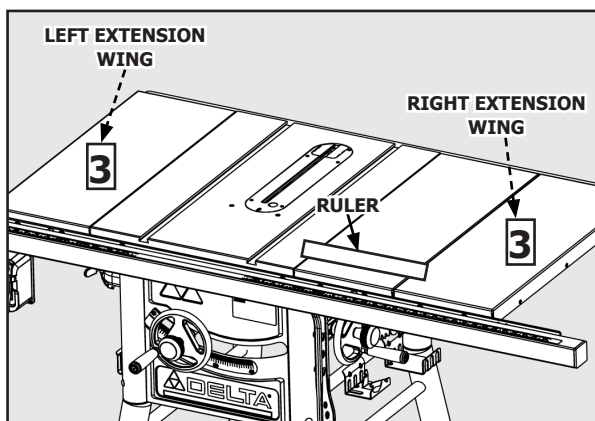
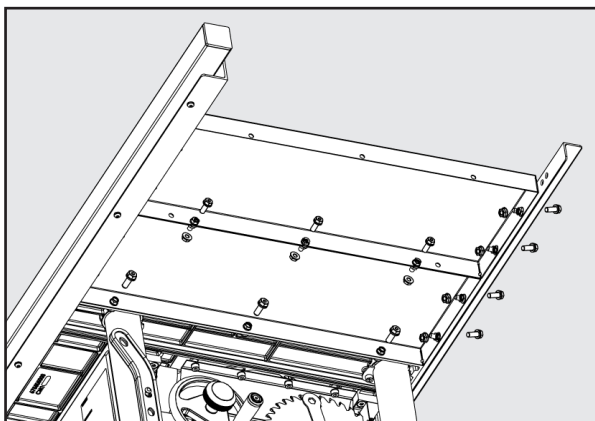
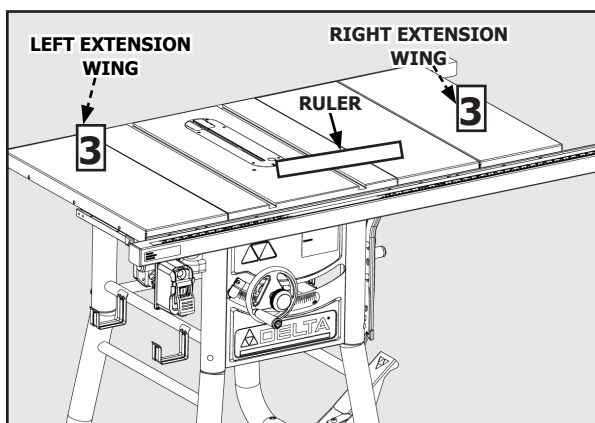

FIGURE 7
FIGURE 8
FIGURE 9
4. Turn the two wings, fastened together, over and fasten them to right side of the saw table using three (5/16-18 x 7/8") hex head screws with spring washers. See Figure 8.
**NOTE:** Use a ruler to make sure the top edges of the wings are flush with the top of the tabletop. See Figure 7.
1. Lay the wood table (A) upside down on floor or bench.
2. Position legs (B) in corner as shown in Figure 7. The vertical wall of the angle plate on the leg should be against the end wood wall (C) of the table.
3. Carefully drill through the holes in the vertical angle plate holes and through the wood rail of the table with a 1/4" drill. Insert the 10-32 x 1-1/4" (180) with #10 washer (179) through the table end rail and the leg vertical angle. Feed the #10-32 nuts (181) onto the screws, against vertical angles and tighten.
4. Fasten the legs to the table board with (8) #8 x 3/4" self tapping screws (182) (D).
5. Loosely assemble three 5/16-18 x 7/8" screws with spring washer, 3 washers and nuts (16, 58, 193) (F) into the three holes in the side of the extension wings as shown. See Figure 8.
6. Carefully lower the slotted steel angle table bracket (G) down onto the screws on the extension wing. Tighten the screws after the wood table is leveled with the extension wing.
7. Using the rail alignment gauge (H) adjust the feet in the legs (I) so the top of the table is at the proper distance from the rail.
8. Drill 1/4 inch holes through the rail holes (J) into the wood table on the front and back rails. See Figure 9.
9. Fasten wood table to rails with 1/4 - 20 x 1 1/2" flat head screws for the front rail and 1/4 - 20 x 1-1/2" hex head screws for the rear rail, flat washers, and nuts (183,184,185,186) being careful to place the washers between the nut and the wood rail, aligning rail to table and saw top using set-up gauge (H).